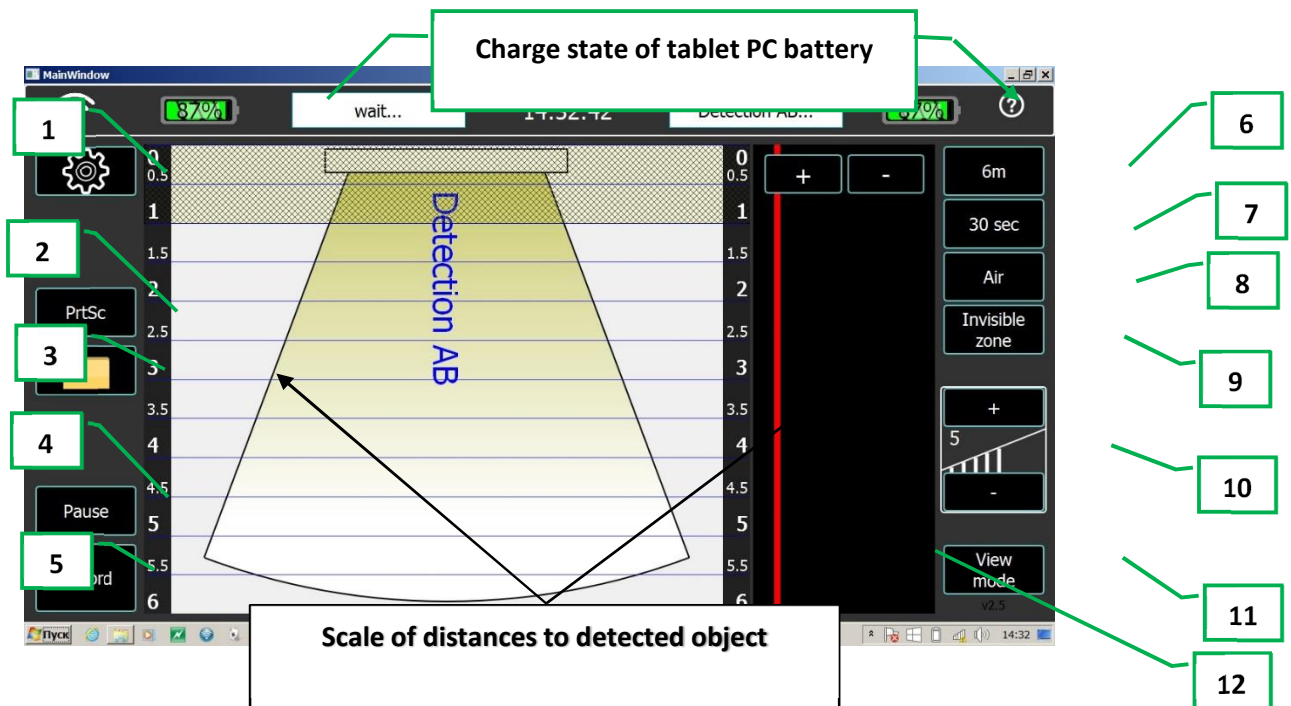
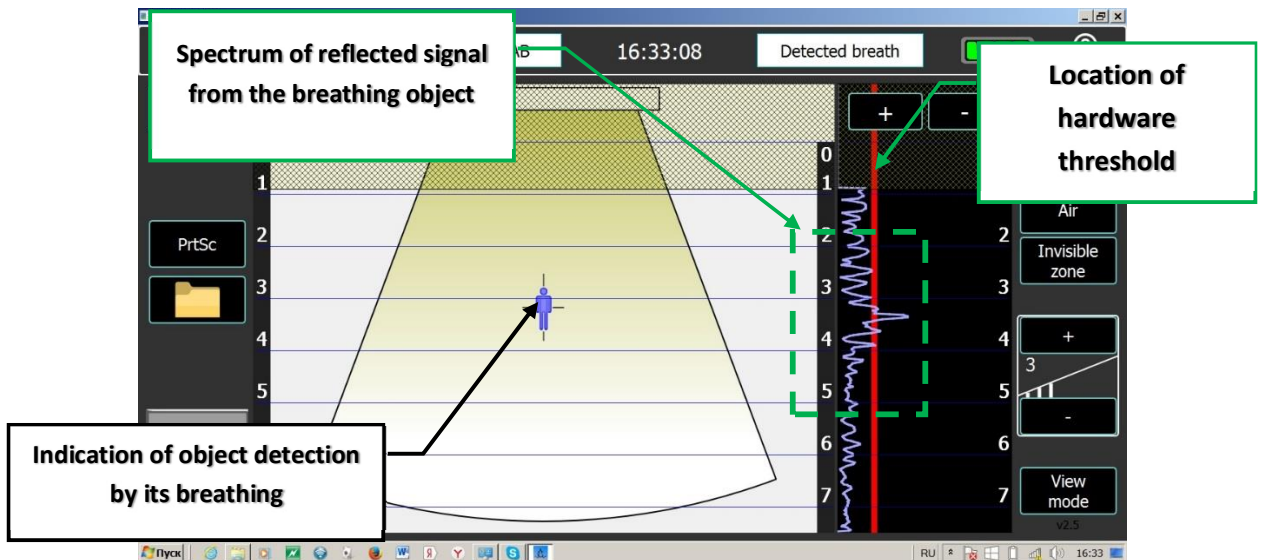
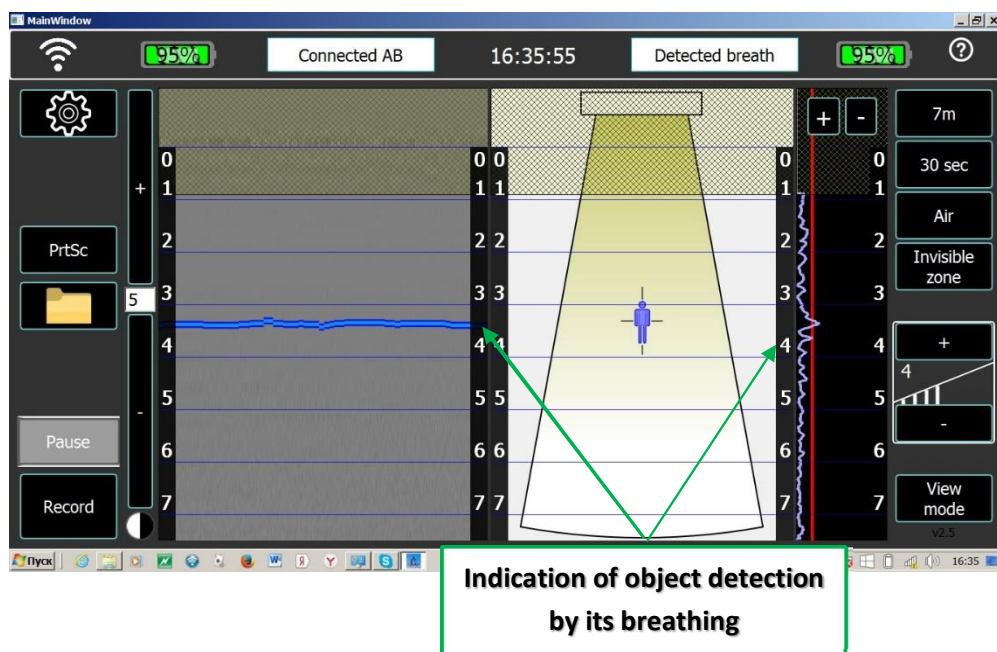

Figure 4.2. Main window of radio detector device program
Figure 4.4. View of window of radio detection device program in case of living object detection by its breathing
Figure 4.5. View of window of radio detector device program with display of radargram and graphical image at detection of living object by its breathing
- Window shown in Figure 4.2 will display on screen of tablet PC after the program start. The "Search of AB" caption appearing at first moment means the process of establishment of connection between RD-400 and tablet PC; the caption goes out when connection is established.
After data analysis, in case of the object detection by its breathing the program window will be as shown in Figure 4.4. Cryptogram with the image of a man appears on the screen supplied with distance to object detected by its breathing. Additionally the spectrum of reflected signal from the object detected by its breathing and position of hardware threshold of the device (red line) starts displaying in the right side of the main window. The form of spectrum of reflected signal extends the operator's capabilities in forecasting and estimating the situation on the likely presence of breathing object under the obstruction. Appearance of a pronounced peak in the spectrum refers to the object detection by its breathing. Moving the line that corresponds to the hardware threshold using «+» and «-» buttons allows to set up most comfortably the size of spectrum of reflected signal.
Apart from the view seen in Figure 4.4, the RD-400 program displays the results of sounding as shown in Figure 4.5, which is switched over by "Change view" button (Figure 4.2, item 11). Radargram is displayed in the left part of the screen.